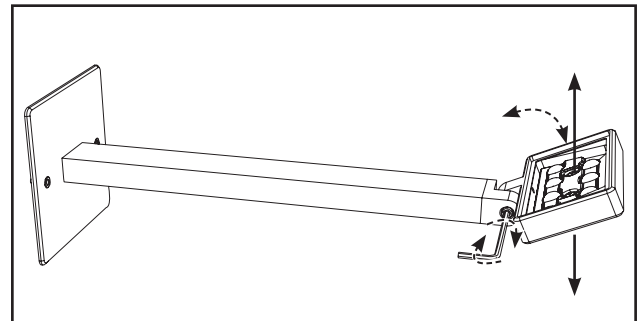

Figure 4.
6. Using a 9/64" Allen key, loosen the knuckle bolt and adjust the fixture head to the desired position. Tighten the knuckle bolt with a 9/64" Allen key. (Figure 4.)